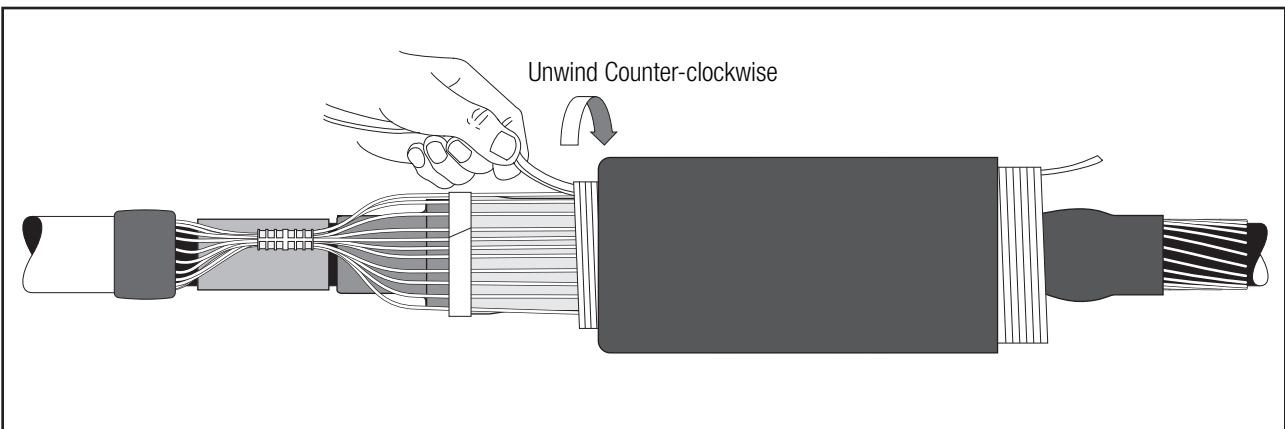

Figure 46
12.2 Begin to install the cold shrink tube by completely covering the rubber mastic, and slowly pulling and unwinding the inner core counterclockwise toward the splice body. The outer core should remain relatively stationary while unwinding the inner core. If the outer core begins to move towards the first mastic seal, gently pull the outer core and jacketing tube towards the second mastic seal and continue unwinding the inner core (*Figure 46*).